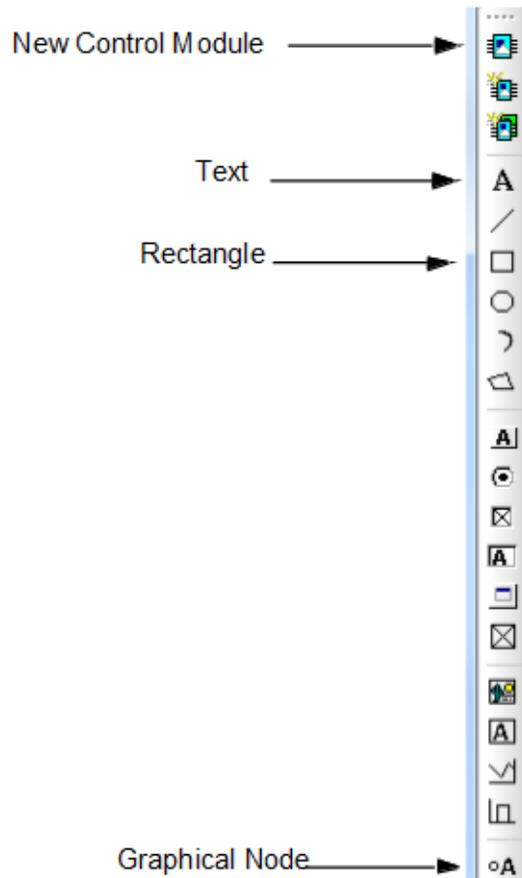

Figure 40. Icon menu in the CMD Editor
2. Select icon for Rectangle (Figure 40) and mouse-click a rectangle over the outward line (see the outward line in Figure 39).
3. Select icon for Text (Figure 40) and write CCTemplate (Figure 39).
4. Select icon for Graphical Node (Figure 40) and add two nodes on both sides of your Text area (see exact location in Figure 39). Type in parameter **In** and **Out** in the rectangle.
3. Open the CMD Editor in the Application and select the icon for New Control Module (see Figure 40).